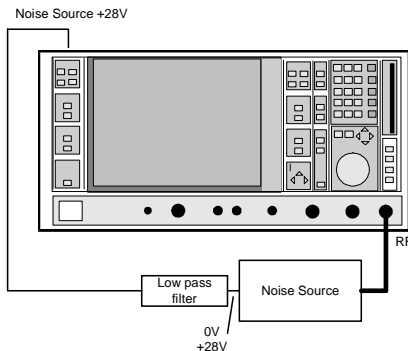

Fig. 2-3 Preparation for calibration
- Connect the noise source to the RF input of the spectrum analyzer. (see Fig. 2-3)